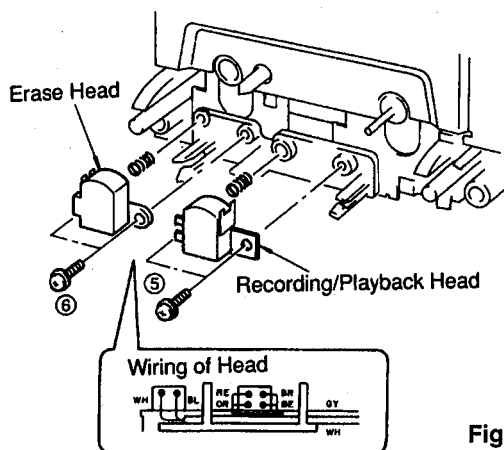

Fig. 6
- a. Remove 2 screws (⑤) in Fig.6 and then remove the Recording/Playback Head.
b. Remove 2 screws (⑥) in Fig. 6 and then remove the Erase Head.